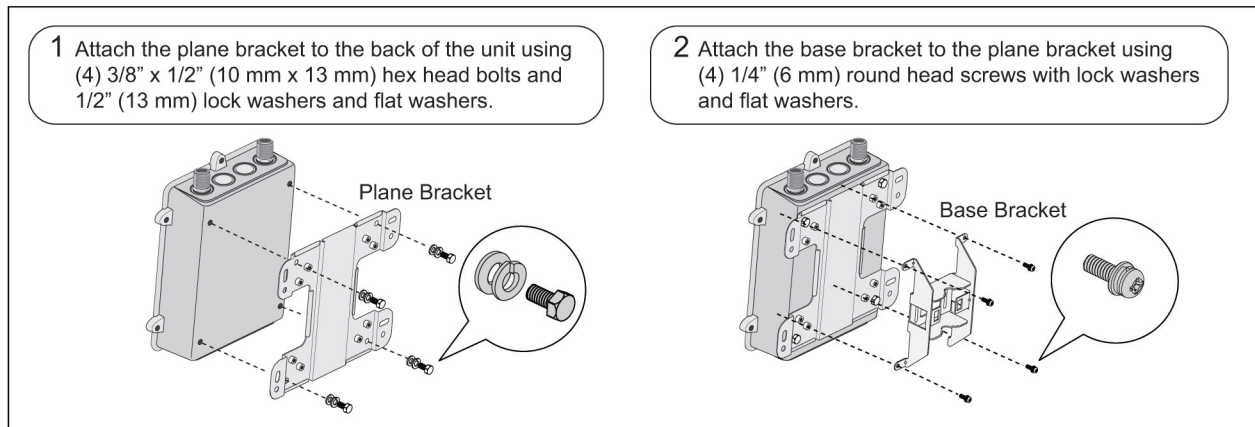

Figure 3. Attaching the base and plane bracket.
4. Place a lock washer and flat washer on each of the four hex screws and use the screws to attach the plane bracket to the back of the LWN602WA, as shown in Figure 3.